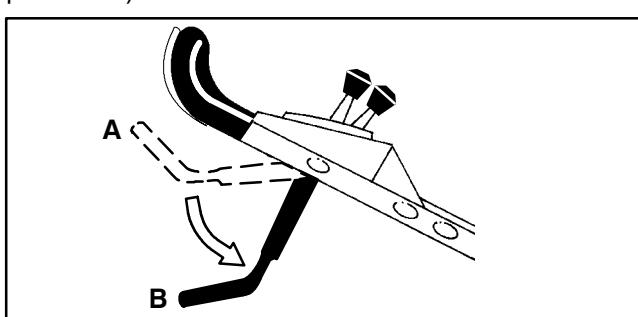

Figure 7
7. Push control bar down to lowest position (Fig. 7, position B).